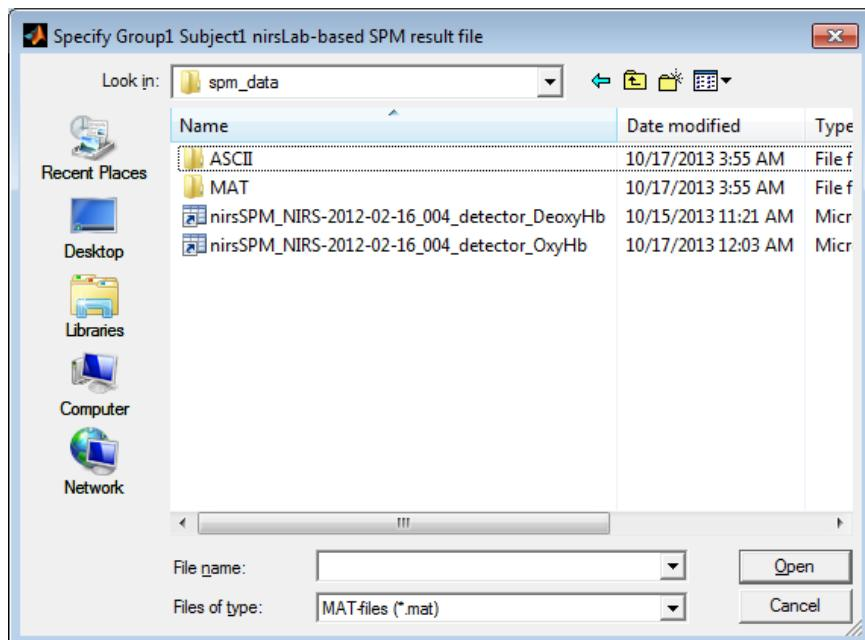

Figure 6-44. The navigator window that is launched when you click on the *Load Multiple data* button (Figure 6-43).
- Press the *Load Multiple data* button to launch a browser window that you can use to navigate to and select a file containing previously generated Level-1 results, for each subject in turn (Figure 6-44).